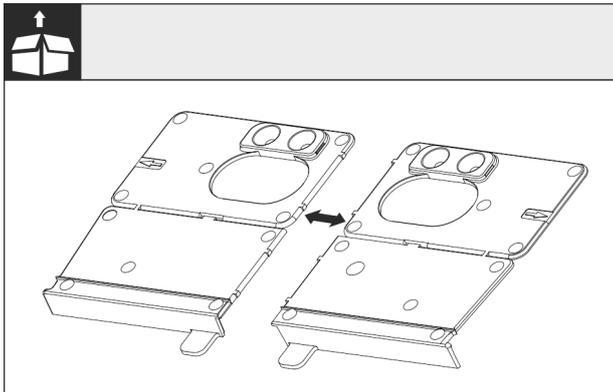

Fig. 24
- ▶ Separate the floor mounting bracket Fig. 24 () at the perforation.